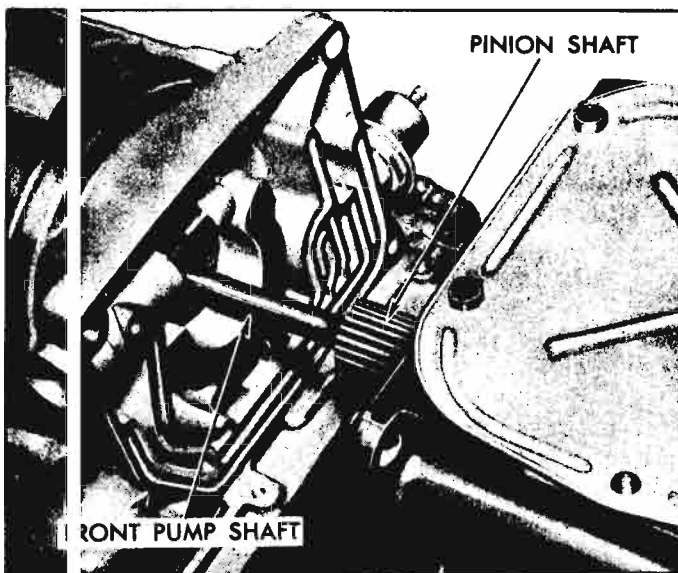

Fig. 6-17—Engaging Pinion Shaft-to-Transmission Planet Carrier Spline
3. Align the carrier and transmission on a flat surface and carefully guide the pump shaft through the differential carrier so as not to damage the bushing in the pinion. Then engage the splines of the pinion shaft with the planet carrier internal splines in the transmission (fig. 6-17).